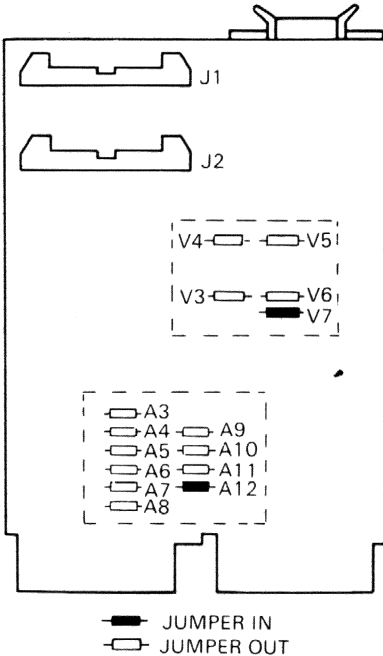

Figure 27 Jumper Locations
4. Check new PCB for jumper and switch position (see Figure 27)